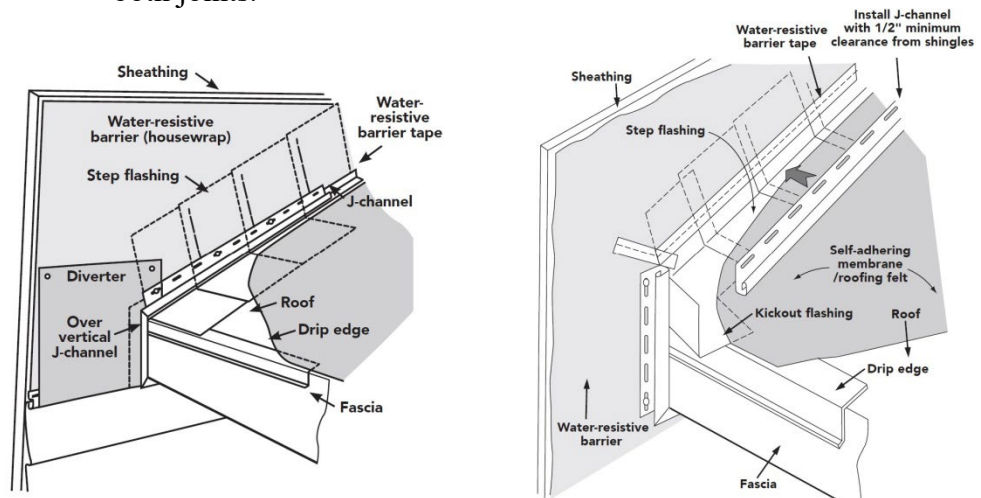

Figure 11-12. F-Channel Over Roof.
11. Where a section of roof meets a wall, install the J-channel ½" above the shingles with the nailing flange behind any housewrap, if present (see Figure 11-12). Use a strip of ½" thick OSB about 2-3' long as a spacer to ensure a uniform gap. Tape the top edge of the J-channel, covering the nail slots, using flashing tape. Then tape the top edge of the step flashing, covering the top edge of the J-channel tape shingle-style.